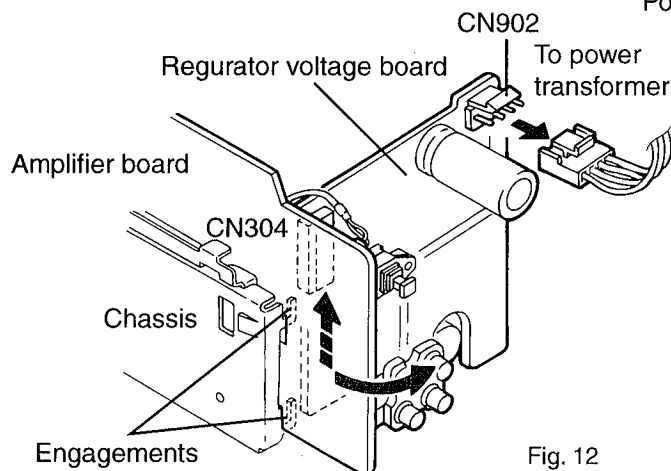

Fig. 12
9. Remove the amplifier board to slid upward, disengage the two engagements between the chassis and amplifier board. (See Fig. 12)